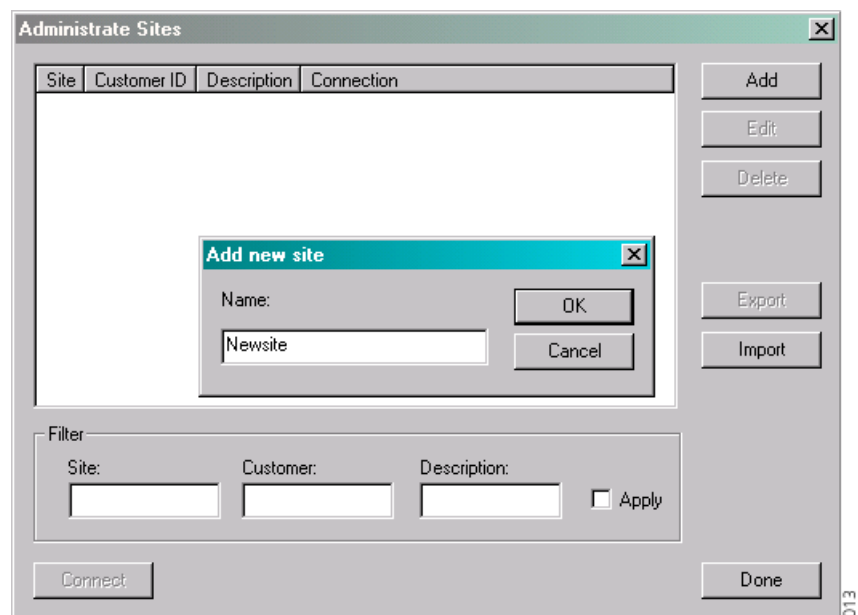

Figure 14. Add a new customer site.
- 2 In the *Administrate Sites* window, click "Add" and enter the site name, then click "OK". In this example the site is named "Newsite", see figure 14 below.